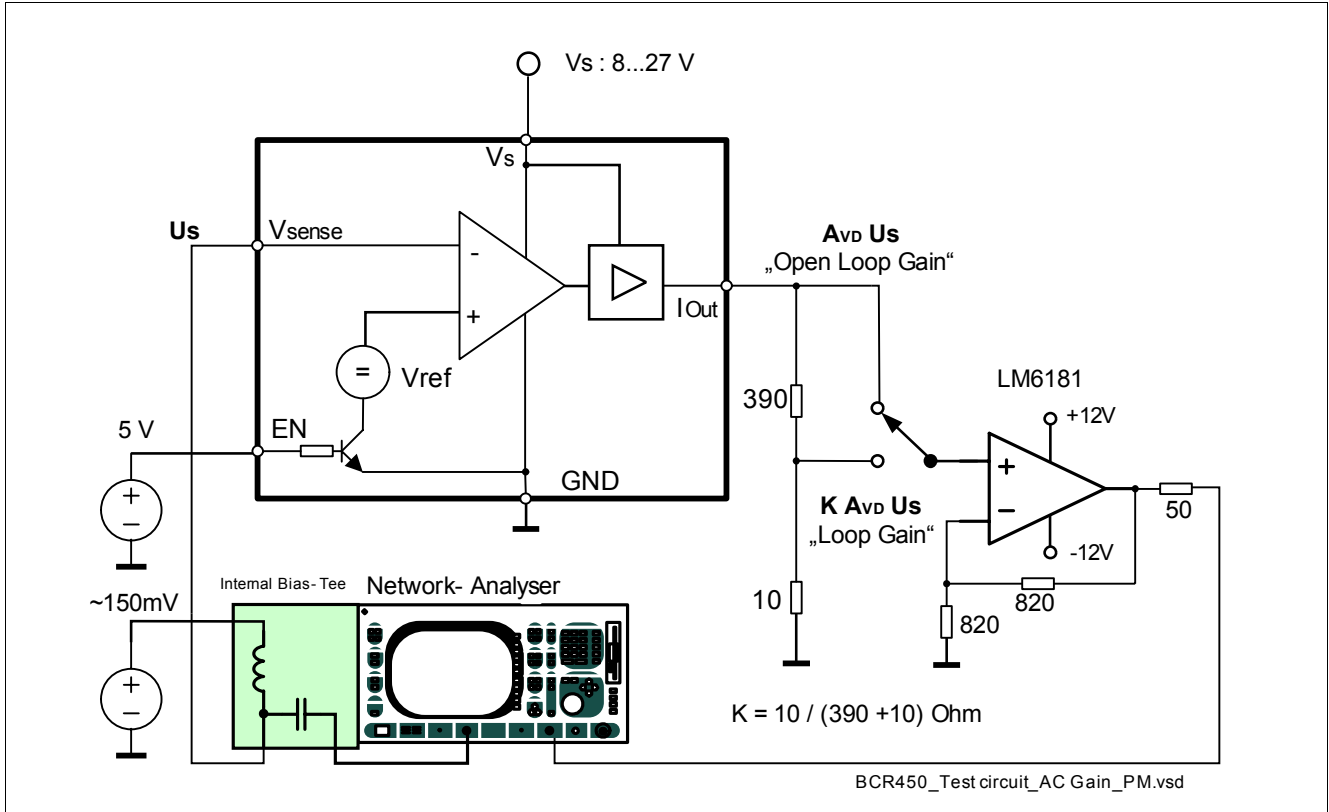

Figure 3 Electrical test circuit for open loop gain, loop gain and phase margin
1) $V_{out} = 6\text{ V}$; S2, S6, S8, S9 = on; R1 = 390 Ω ; R2 = 10 Ω , see Figure 3